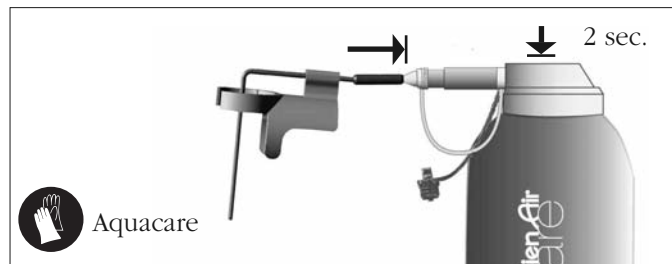

fig. 3A
- Wash out the physiological liquid by spraying (2 secs) into the irrigation system tube with **Aquacare fig. 3A**.